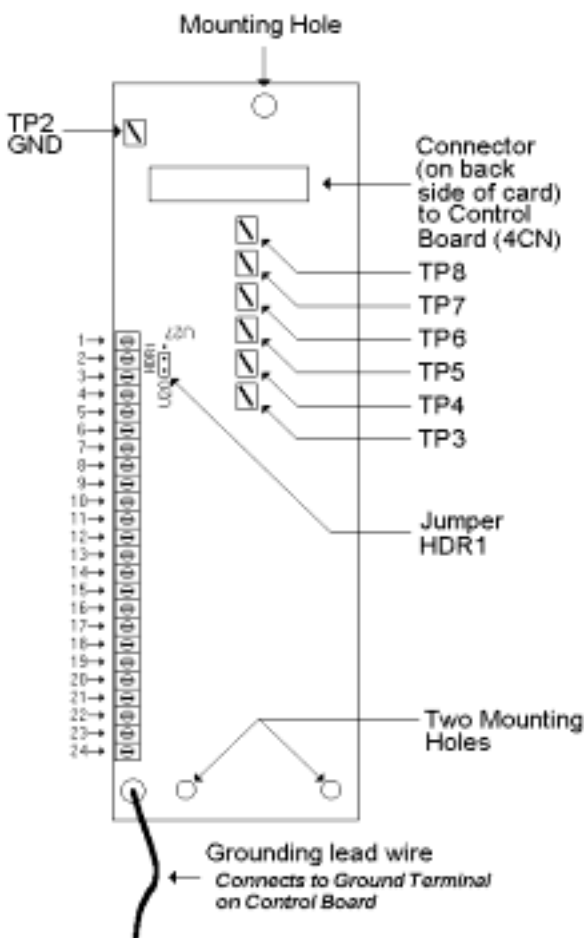
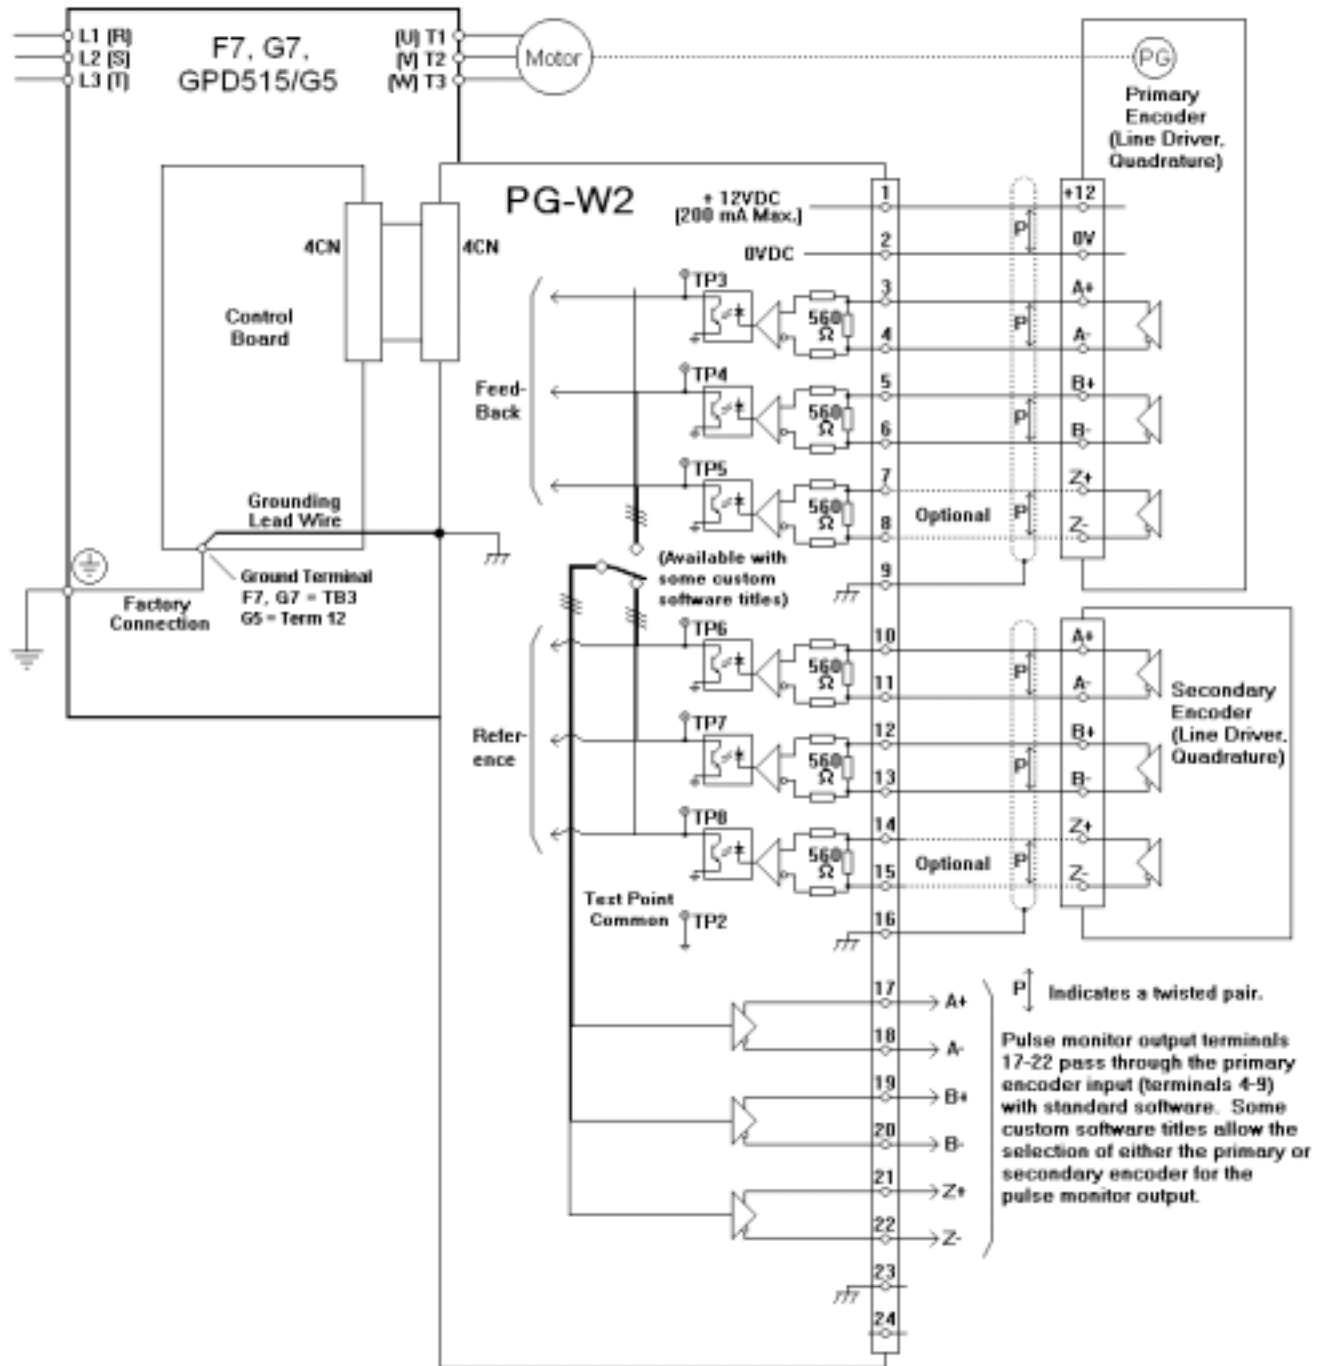

Figure 1. PG-W2 Dual Encoder Feedback Card
Figure 4. PG-W2 Interconnection Diagram
3. **Introduction:** The PG-W2 dual encoder feedback option card supports two encoder (pulse train) inputs and one pulse train output. The terms encoder, PG (pulse generator), and pulse train are used interchangeably in this guide. The PG-W2 can be used for the standard software function "Motor 2 Selection" or with several custom (CASE) software titles. The specific custom (CASE) software installed in the drive determines the exact functionality of the two encoder inputs and pulse train output. The PG-W2 card is mounted on the drive's control board as shown in Figure 1. The following example illustrates how the PG-W2 is used in conjunction with Electronic Lineshaft software:
## 8. Wiring: Refer to Figure 4 and Tables 1 & 2. Make wire connections between the PG-W2 card and the encoder, the master drive, and/or external monitoring circuits. Observe the following:
## 9. Jumper Setting: The PG-W2 contains a jumper HDR1 (see Figure 1). The correct position of the jumper is software specific. Please refer to the installed software manual for details.
**17. Viewing Signals With An Oscilloscope:** The PG-W2 option card has test points that can be used to connect an oscilloscope. Figure 1 shows the locations of the test points on the PG-W2 card. Test points TP3 through TP8 are after the compliment is subtracted out and the signals are buffered through the opto-isolators. See Figure 4. The voltage level on all test points varies between 0 and +5VDC (TTL).